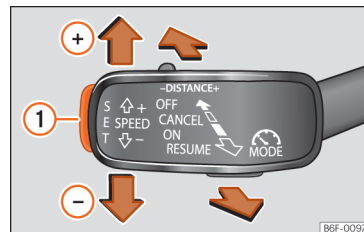

Fig. 223 On the left of the steering column: third lever for operating the GRA.
- Push button **SET** »» Fig. 223 (1).
- Press the button **SET**  **Fig. 223 1** to reduce speed in small increments of 1 km/h (1 mph).